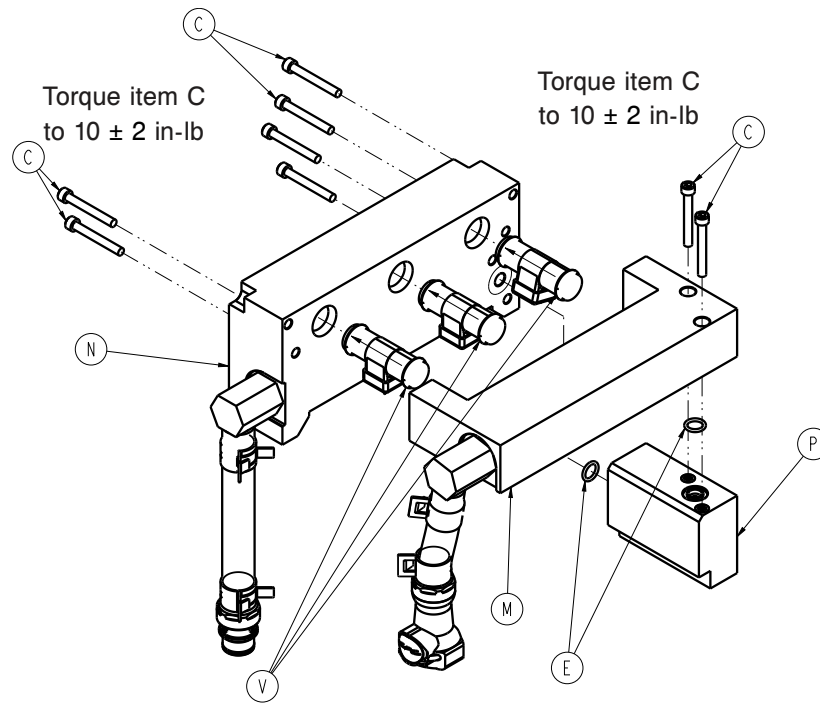

Figure 41 – Manifolds
16. Using a 7/16" socket, loosen the two nuts (D) that secure the MCB bracket to the control assembly bracket.
19. Using a 5/32" hex wrench, remove the four screws (C) that secure the return manifold assembly (N) to the supply manifold assembly (M) (Figure 41). Save the screws.